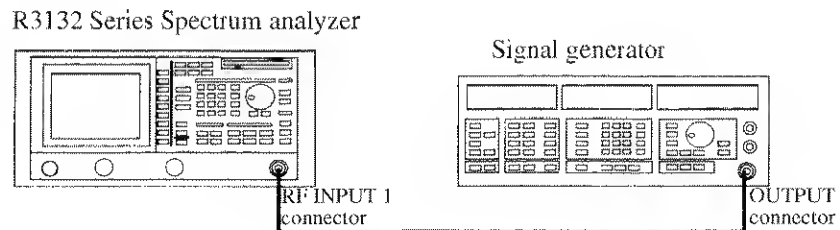

Figure 2-27 Setup for Verifying the Dynamic Range
1. Connect the signal generator as shown in Figure 2-27.